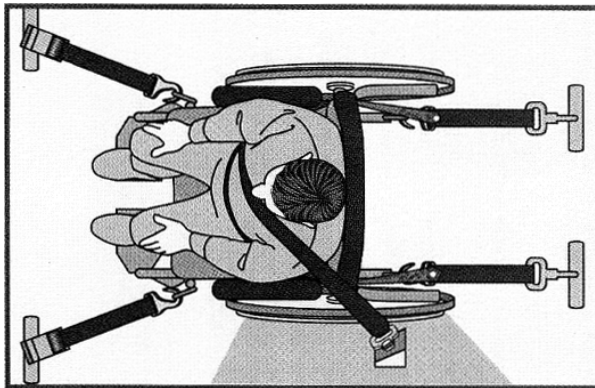

Figure 30
- The hooks that can be used with the wheelchair are of the type "Four-Point Tie-Down". The wheelchair will be hooked up inside the motor vehicle in 4 points: 2 front and 2 rear, as shown in Figure 30.